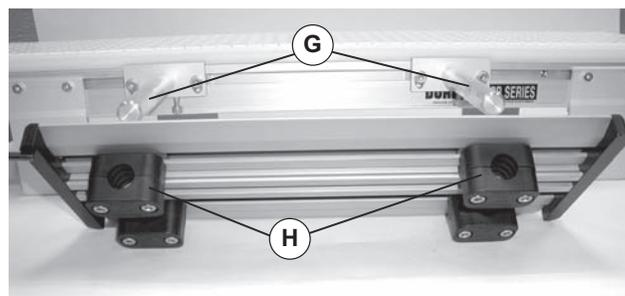

Figure 8
7. Space clamps (Figure 8, item H) same distance apart as support bars (G).